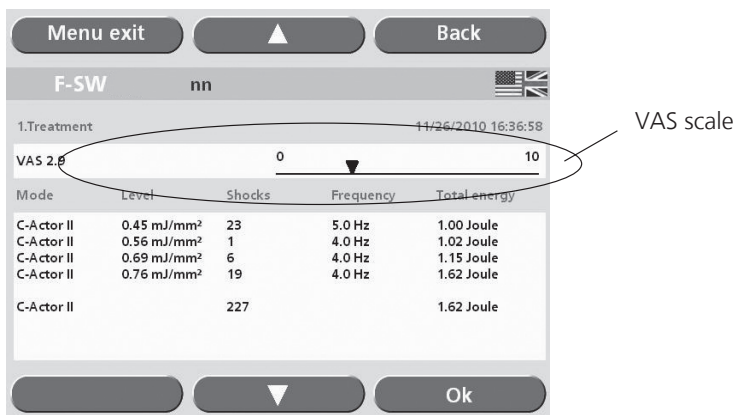

Fig.3-19 Setting the VAS value
- Touch and drag the arrow to move it to the point on the scale (Fig.3-19) where the patient has assigned his or her pain intensity.